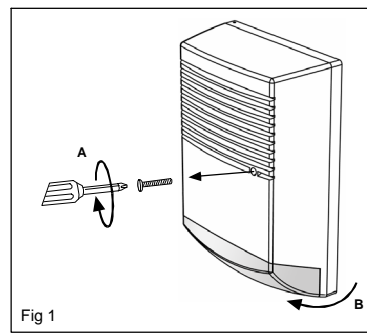
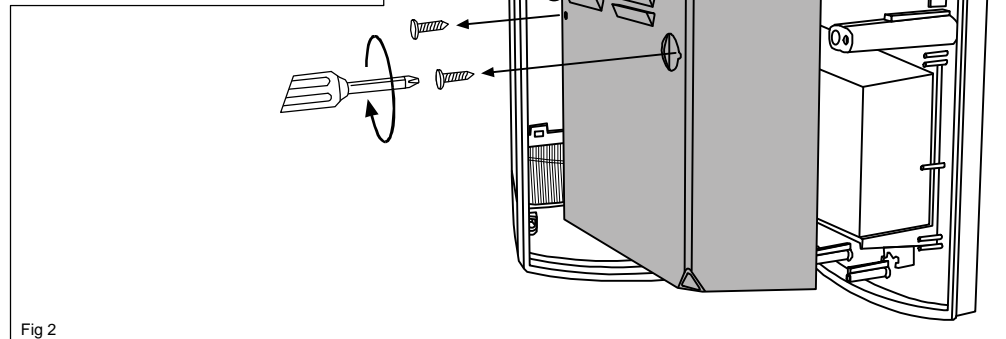

Fig 1
Fig 2
3. Open the siren housing (1 screw on the front),fig 1 and remove the metal cover (2 screws),fig2.
4. Unplug the terminal(5) on the siren driver